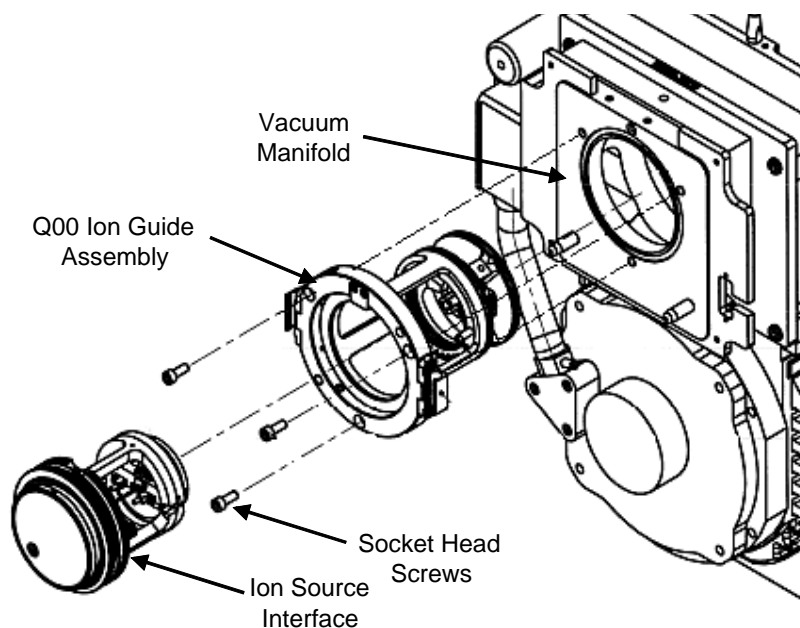

Figure 4-10. Q00 ion guide assembly removal
2. Loosen the three mounting bolts that hold the Q00 ion guide housing to the vacuum manifold. See Figure 4-10.
2. Orient the Q00 ion guide assembly as shown in Figure 4-10 on page 4-23.